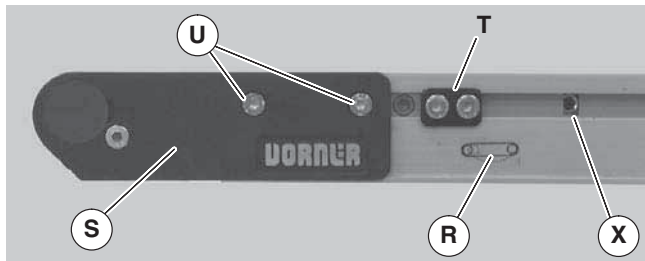

Figure 25
1. On tension end of the conveyor, identified with a  label (Figure 25, item R), adjust head plate assembly (S): On both sides of conveyor, loosen fastening screws (U) and rotate pinion gear (X) to adjust head plate assembly.
3. After adjusting proper tensioning, tighten fastening screws (Figure 25, item U) on both sides of conveyor to 60 in-lb (7 Nm).
4. If equipped with cam tracking assemblies (Figure 25, item T), position against head plates and adjust belt tracking. Refer to "Conveyor Belt Tracking" on page 14.